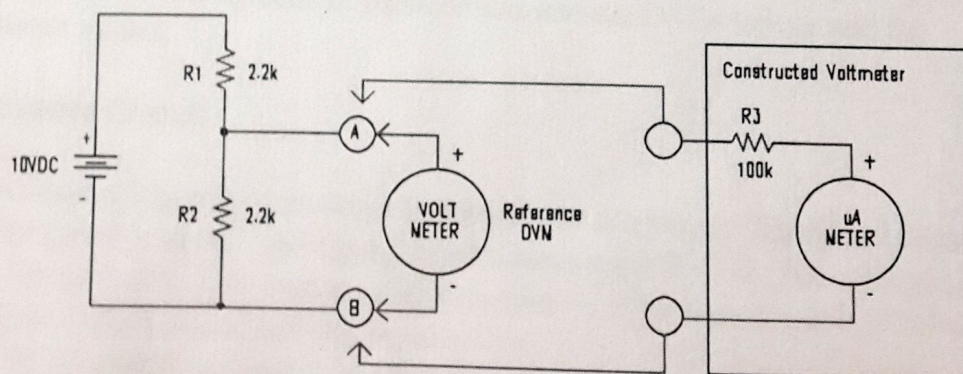

Figure 3
2. Connect the circuit shown in Figure 3, but leave the power supply turned off.